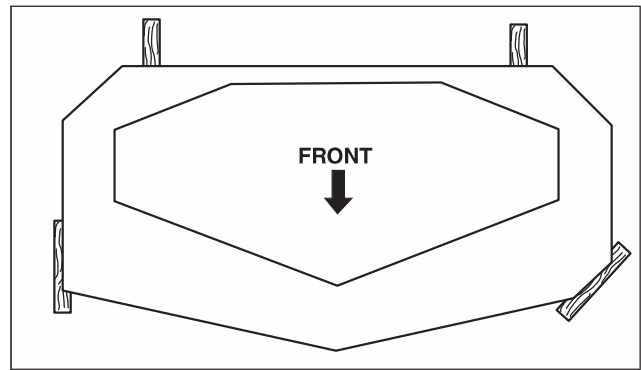

Figure 49. 2 x 4 Locations (Arrow points toward front of the deck)
3. Place 2 x 4 blocks under each corner of the mower deck with the 3-1/2" sides being vertical. See Figure 49.